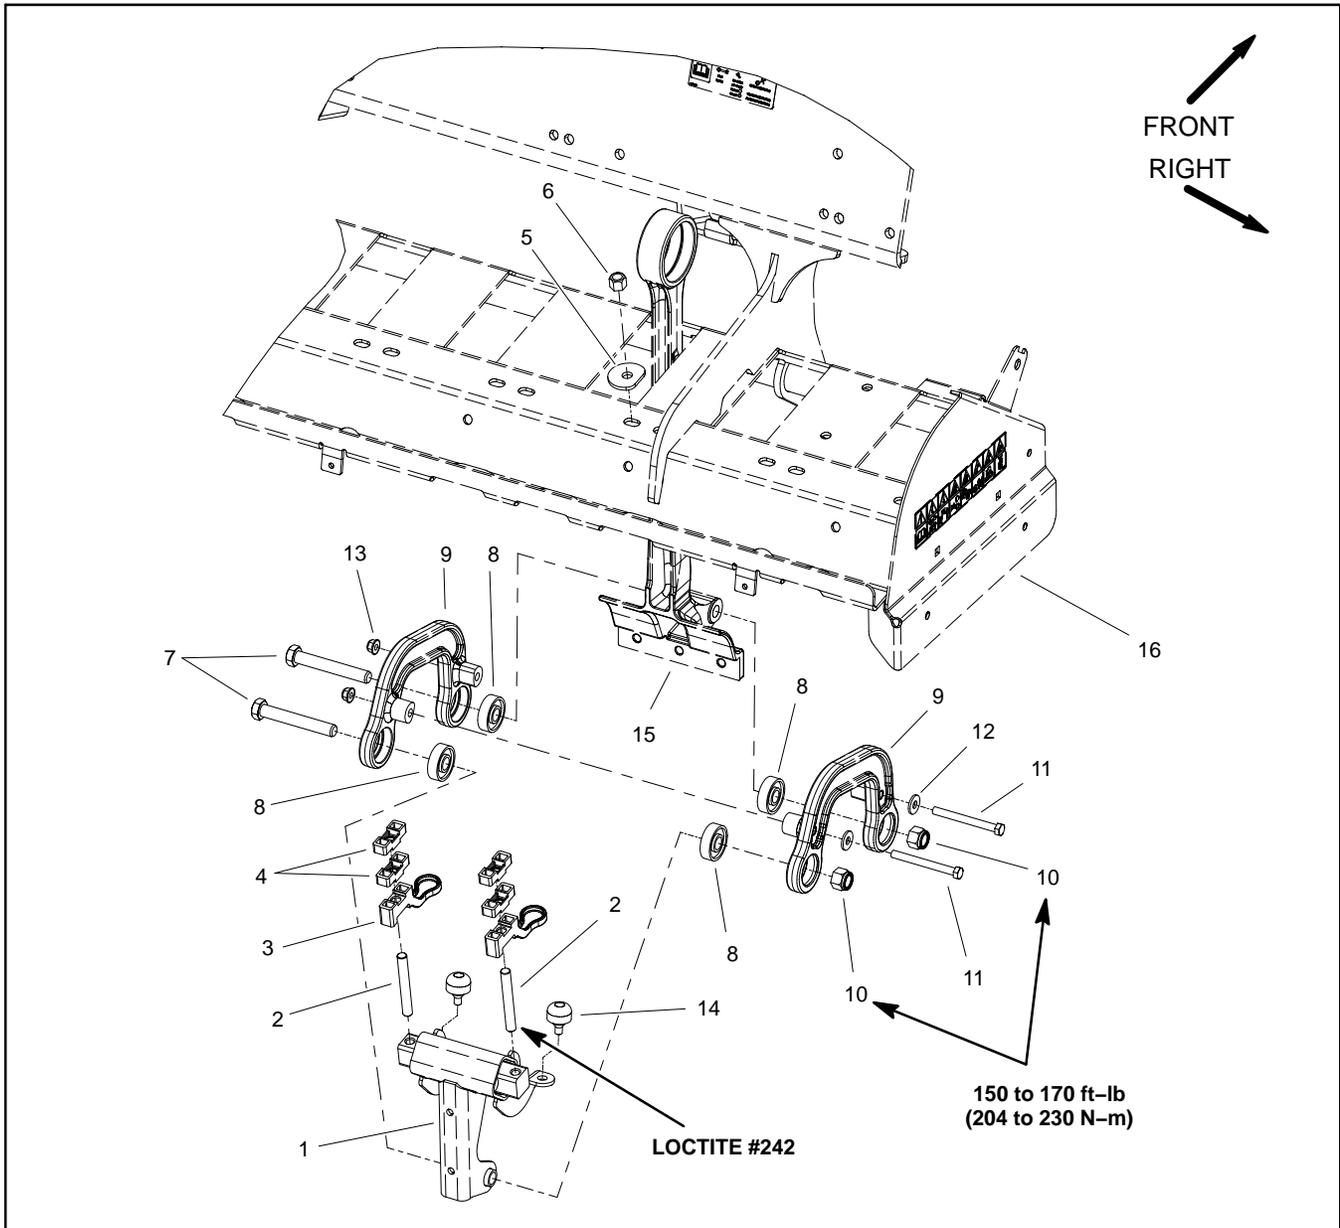

Figure 6
Disassembly (Fig. 6)
2. Remove rotolink components as needed using Figure 6 as a guide.
Assembly (Fig. 6)